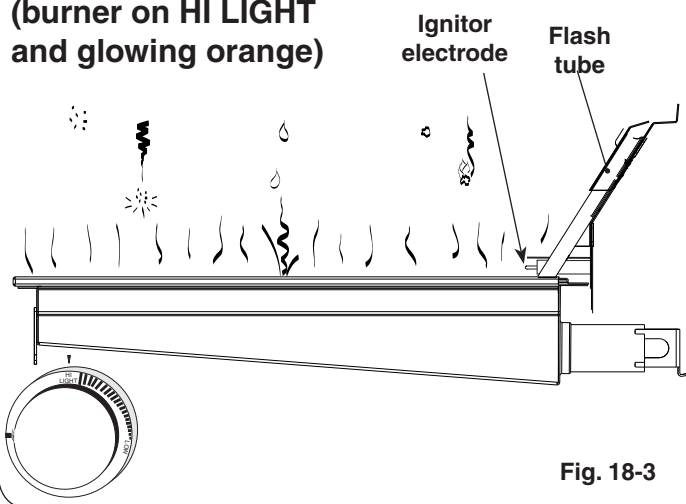

Fig. 18-3
- **DO NOT** place food on the cooking grid until the IR burner glows orange (Fig. 18-3). Drippings are heated and evaporate instead of sticking to and impairing burner function.